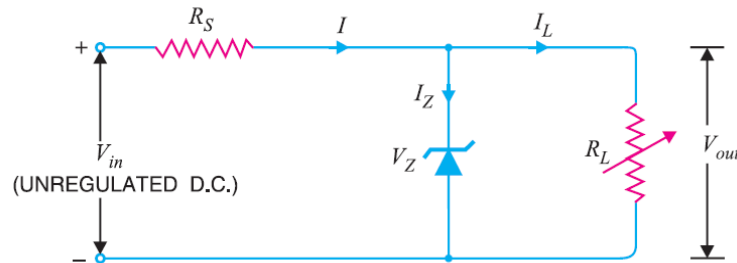

Figure A1
- A1. Determine the maximum allowable value of R_S for the zener voltage regulator circuit shown in Figure A1 given that $V_{in} = 10V$, $V_Z = 2.5V$, $I_{Z(min)} = 1.2mA$ and R_L is variable between $1k\Omega$ and $2k\Omega$.